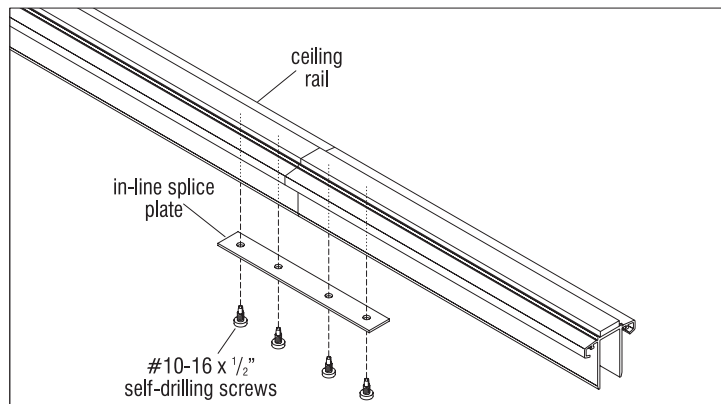

Figure 3
- On straight runs, the ceiling rail is spliced with an in-line splice plate. Next, attach the in-line splice plate to the ceiling rails using four #10-16 x $\frac{1}{2}$ " self-drilling Torx head screws (Figure 3). Refer to "Ceiling Corner Brackets" instructions (page 15) for assembly of corner conditions.